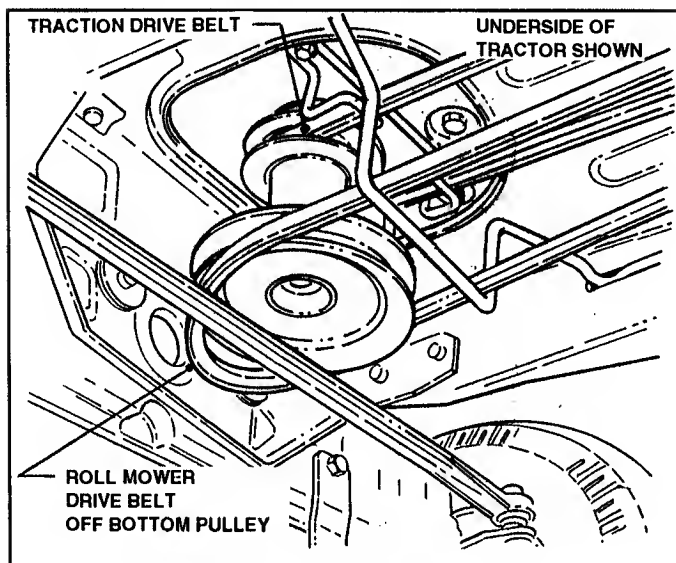

FIGURE 50
4. Remove MOWER DECK BELT from bottom pulley of engine. See Figure 50.